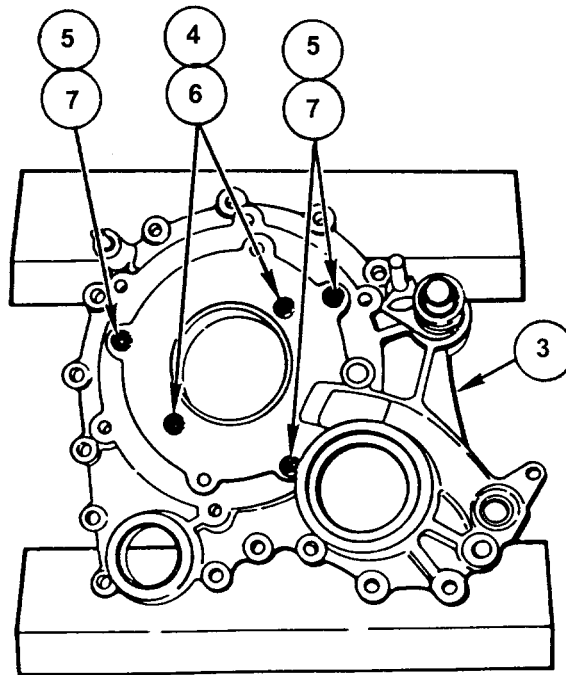

Figure 3. Left Brake Support.
3. Position left brake support (3) on wooden blocks as shown in Figure 3.
4. Loosen two retainer bolts (4). Loosen three stationary cam bolts (5). Loosen bolts (4, 5) until bolt heads are approximately 1/4 inch (6-1/2 mm) out of holes in left brake support (3).
5. Tap bolt heads (4, 5) to loosen retainer and stationary cam located under left brake support (3).
6. Remove two bolts (4) and two washers (6) from left brake support (3). Remove three bolts (5) and three washers (7) from left brake support (3).